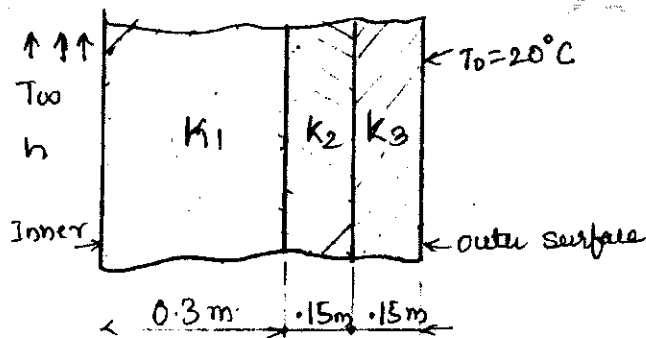

Fig. Q8 (b)
b. A composite wall consists of 3 materials shown in Fig. Q8 (b). The outer temperature is $T_0 = 20^\circ\text{C}$, determine the temperature distribution in the wall. Convection heat transfer takes place at inner surface with $T_\infty = 800^\circ\text{C}$. Take $h = 25 \text{ W/m}^2\text{C}$, $\text{Area} = 1 \text{ m}^2$. (12 Marks)